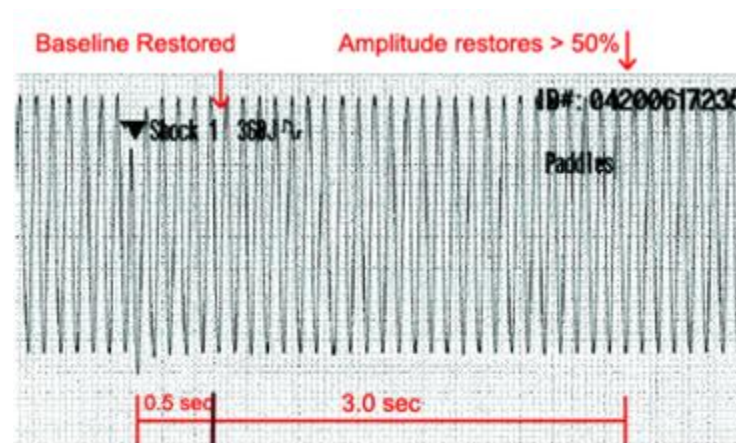

Figure 1.44a--QUIK-COMBO ECG restore test printout
6. Verify the Shock # marker and Energy Delivered event marker are recorded on the Paddles printout. (See Figure 1.44a for all models
7. Verify the signal baseline on the Paddles printout restores to zero offset within 0.5 seconds of transfer. (See Figure 1.44a for all models. **V4-IMX6** is excluded from this step.)